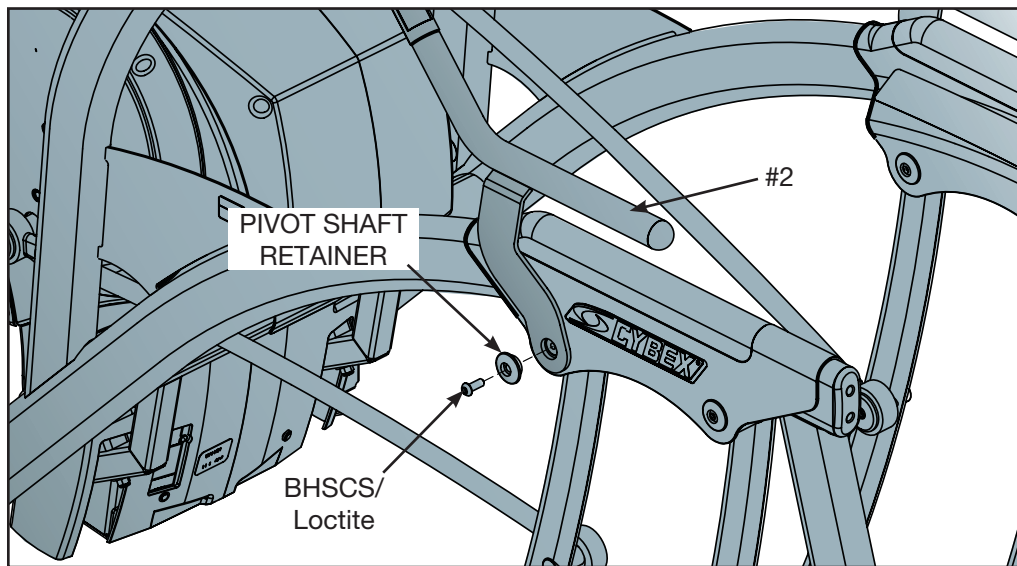

Figure 5
E. Place the lower left console/handle assembly support (#2) in the correct position on the main frame assembly. See Figure 5.
G. Reattach left pivot shaft retainer (removed in step 5B) using the BHSCS/loctite. See Figure 5.
I. Securely fasten the BHSCS attached in steps 6D and 6G using the 7/32" Allen wrench (#14) provided. **NOTE:** Torque the BHSCS in Figure 5 to 150 inch pounds minimum. Ensure the mounting plate is tight against bearing with no side play allowed.